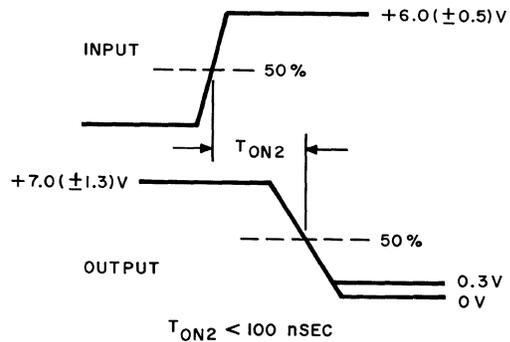

Fig. 38 — EIA Interface Test
(2) Rotate the switch through positions 6 to 9. The input-output waveforms shall be as specified in Fig. 38.